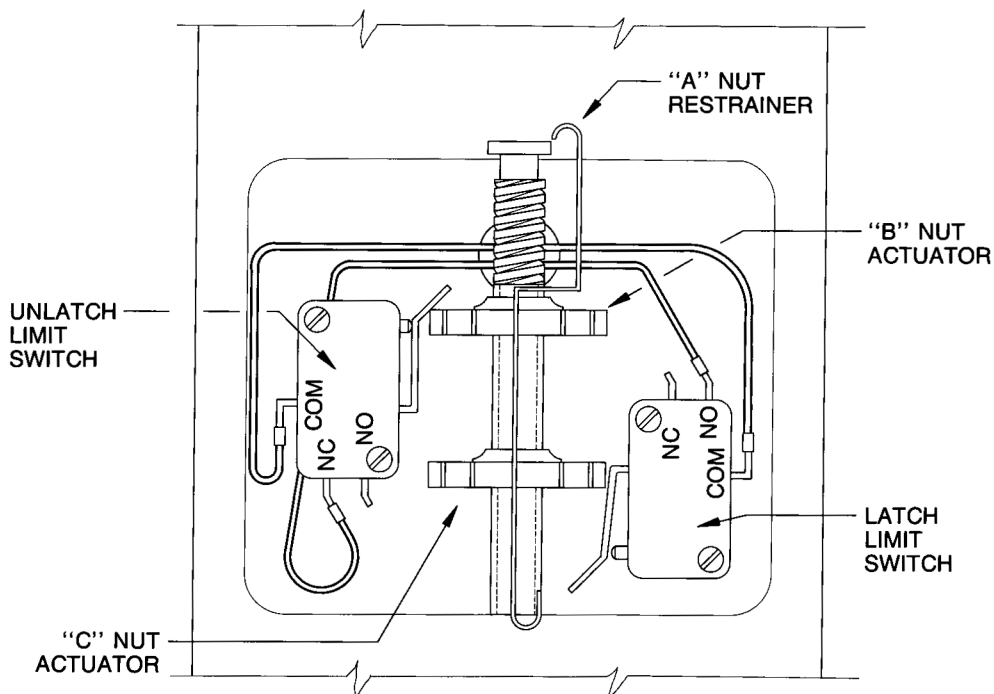

FIGURE 50
8. With the latch in the LATCHED position (linear actuator extended), and both baffle pins completely retracted, refer to Figure 50 and adjust the LATCH limit switch by removing nut restrainer A and rotating nut actuator C until it actuates the LATCH limit switch. When the limit switch actuates, it will emit an audible "click"; or an ohmmeter or continuity tester can be used to determine when the limit switch actuates. Replace nut restrainer A.
9. With the latch in the UNLATCHED position (linear actuator retracted), both baffle pins should extend downward approximately 2-7/8" below the rail tread. When this mechanical relationship is established, refer to Figure 50 and adjust the UNLATCH limit switch by removing nut restrainer A and rotating nut actuator B until it actuates the UNLATCH limit switch. When the limit switch actuates, it will emit an audible "click"; or an ohmmeter or continuity tester can be used to determine when the limit switch actuates. Replace nut restrainer A.